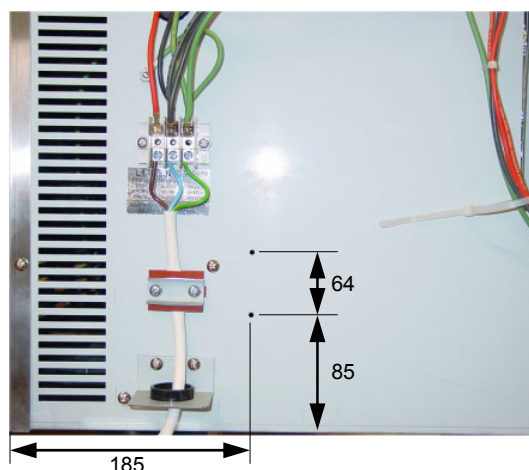

Figure 1
- 2) Mark and drill 2x $\varnothing 3.5$ mm holes as per figure 1.